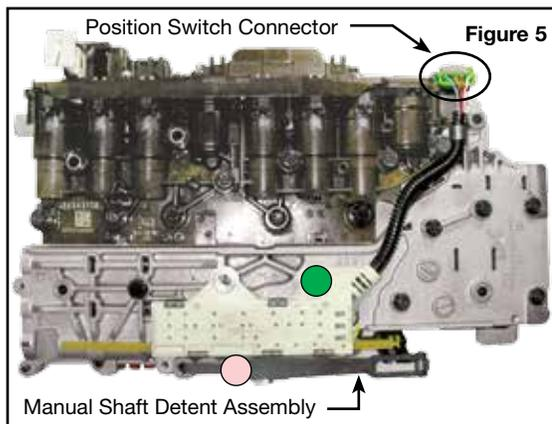

Figure 5
- c. Remove the single 8mm head bolt and manual shaft detent assembly. Release the position switch assembly connector, remove the single 10mm head bolt, then remove the position switch assembly (**Figure 5**).